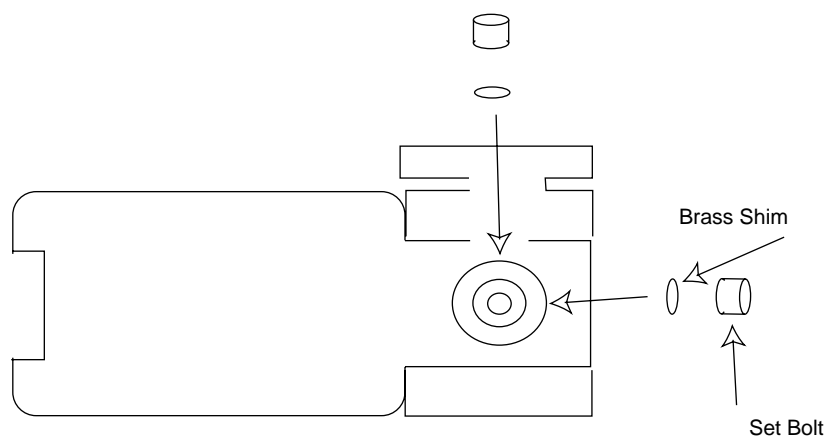

Figure B-8. Installation of the Pulley
14. Install the pulley (see Figure B-8).